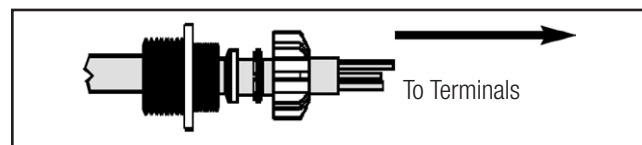

Figure 12-3
2. Insert the end of the cable to be connected to the slip ring through the guide and through the recessed inlet box on the spool. Pull enough cable through the inlet box and cable clamp to allow unrestrained connections to the terminals. See **Figure 12-3**.
3. Unscrew the two parts of the strain relief / watertight and slide both sections and the neoprene grommet over the end of the cable as shown. Be sure to keep the fastening end last. See **Figure 12-3**.